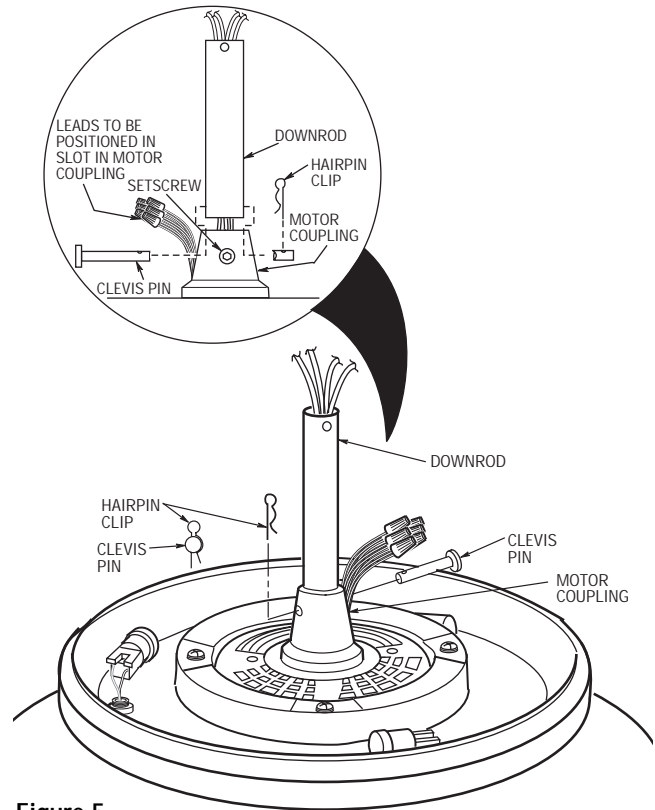

Figure 5
6. Fold all wires from the downrod into the slot in the motor coupling, slide the downrod down the wires and seat the downrod in the motor coupling. All wires and wire connectors should be placed through the motor coupling slot beneath the downrod (See Figure 5).
7. Align the clevis pin holes in the downrod with the holes in the motor coupling. Install the clevis pin and secure with the hairpin clip. The clevis pin must go through the holes in the motor coupling and the holes in the downrod (Figure 5). Push the straight leg of the hairpin clip through the hole near the end of the clevis pin until the curved portion of the hairpin clip snaps around the clevis pin. The hairpin clip must be properly installed to prevent the clevis pin from working loose.
8. Install the setscrew (supplied in the loose parts bag) in the motor coupling and tighten using the 5/32" setscrew wrench (supplied) (Figure 5).